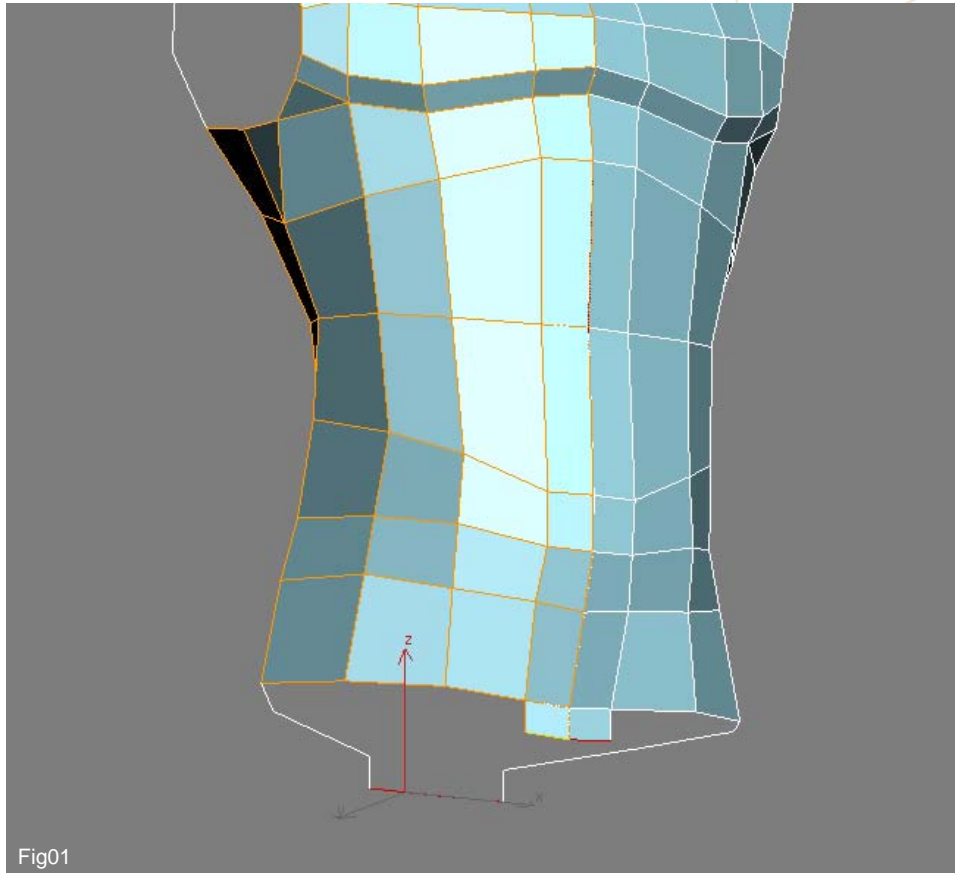

Fig01
1. If you have followed the previous tutorial on making the torso then open that file and begin by selecting the edges as shown in Fig01. Now hold down the "Shift" key and using the "Move" tool drag this row of edges downwards to make a copy. Remember that we still have the "Symmetry" modifier on top of the stack and so are only working on the left half of the mesh.